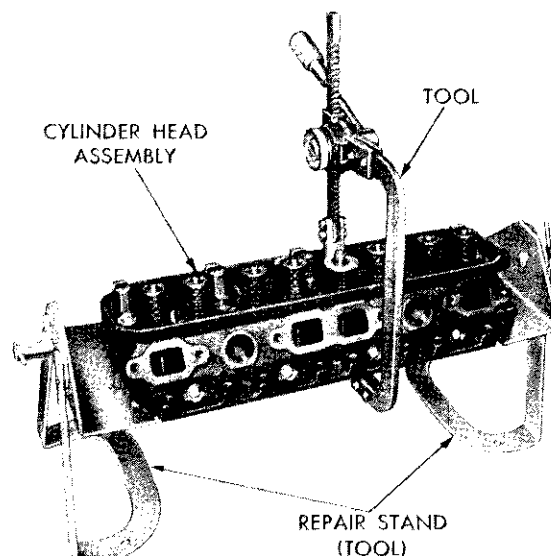

Fig. 8—Compressing Valve Spring
- (1) With cylinder head removed, compress valve springs, using Tool C-3422A, (Fig. 8).
- (2) Remove valve retaining locks, valve spring retainers, valve stem cup seals and valve springs.
- (3) Before removing valves, remove any burrs from valve stem lock grooves to prevent damage to the valve guide. Identify valves to insure installation in original location.